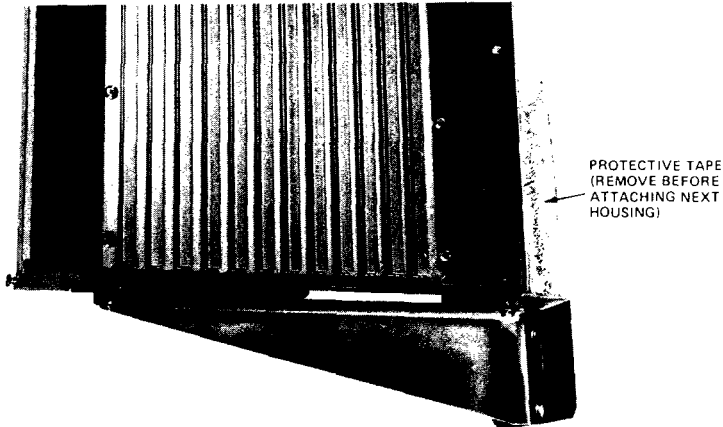

Figure 133. Mounted Housing, Showing Protective Tape
1. Select one B240 Housing and remove the protective tape from the lower left side of the Housing. (Figure 133.)